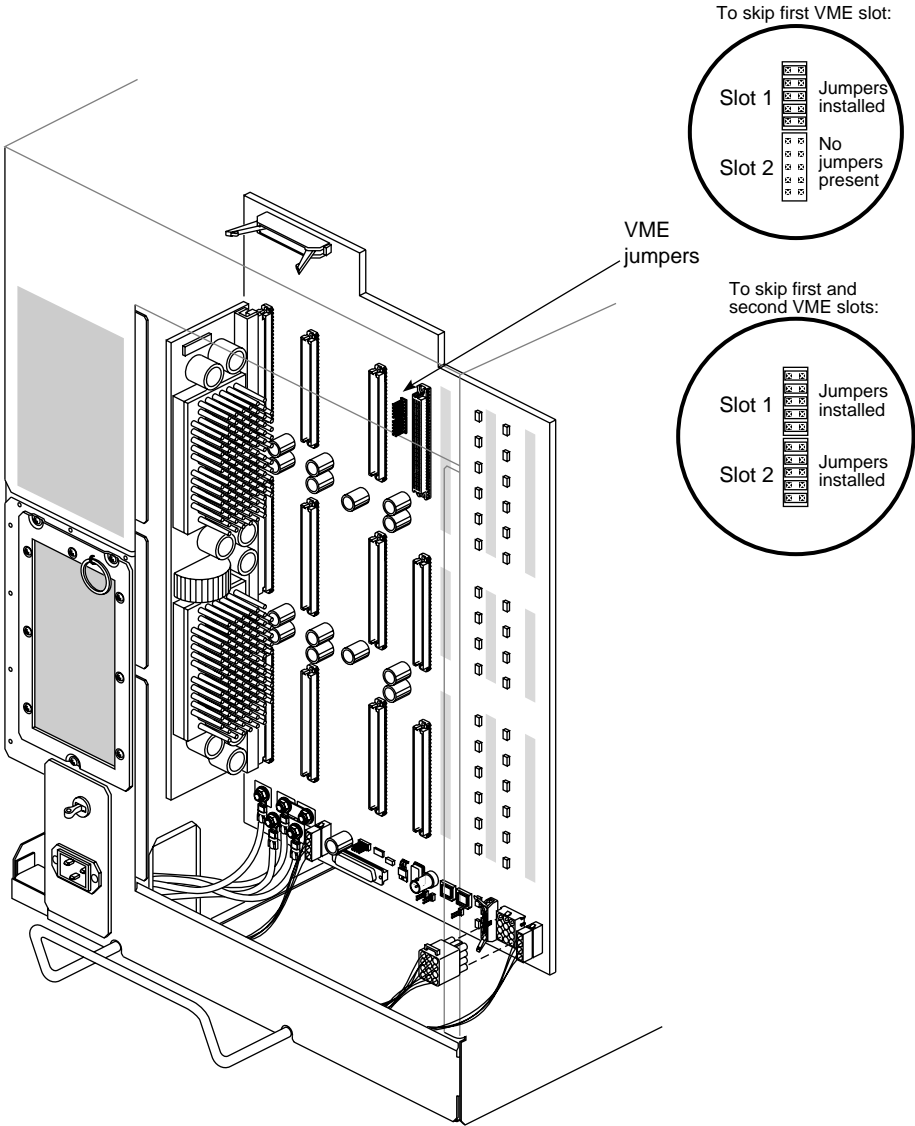

Figure E-8 Onyx Deskside VME Board Jumpering to Skip Slots (Backplane Shown)
- If you are skipping the first VME slot (slot 5 in an Onyx deskside system) to use the next VME slot, you must place five jumpers in the jumper bank, designated as slot 1 (see Figure E-8).